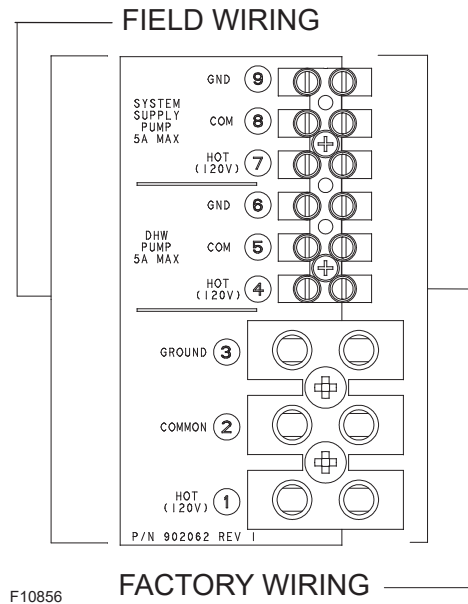
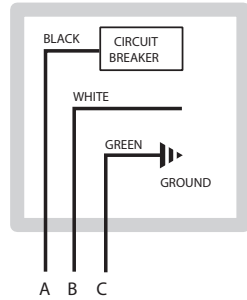
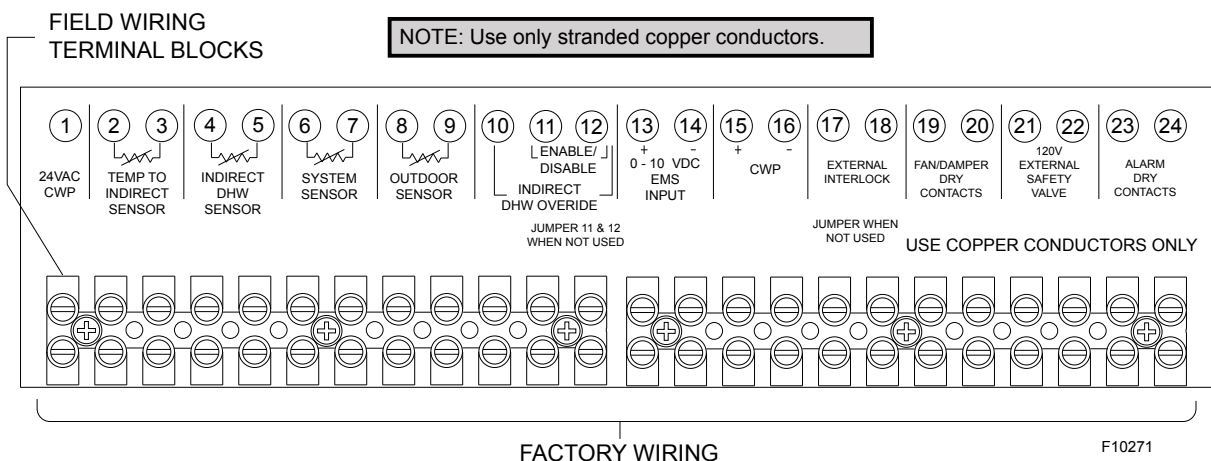

Figure 20. Wiring Electrical Connections
Figure 21. Wiring Connections
Figure 24. Low Voltage Field Wiring
All high voltage wiring connections to the MVB heater are made inside the rear wiring box as shown in **Figure 20**. Power for indirect DHW pump not exceeding 5 amps should be taken from terminals 4 (Hot), 5 (Com), and 6 (Gnd). Power for system pump not exceeding 5 amps should be taken from terminals 7 (Hot), 8 (Com), and 9 (Gnd). Power for boiler pumps must be routed through the pump contactor; 30A supply is required. Power for pumps must be a separate circuit wired through the pump contactor. Power to the MVB heater should be connected to terminals 1, 2, and 3 as noted in **Figure 20**. All low voltage wiring, including sensors, interlocks, enable/disable, and various options are wired into terminals 1–24 on the front wiring panel as noted in **Figure 24**.
⚠ WARNING: Using a multi-meter, check the following voltages at the circuit breaker panel prior to connecting any equipment. Make sure proper polarity is followed and house ground is proven (See Figure 21).
Refer to **Figure 20** and **Figure 21**.
Connect the Enable/Disable wiring to the field wiring terminal (shown in **Figure 24**). Alternately, any dry contact closure (including a remote thermostat) across these terminals will enable the MVB unit to run. Caution should be used to ensure neither of the terminals becomes connected to ground.
2. If using an Outdoor Sensor (option B-32), connect the sensor wires to the terminals marked OUTDOOR SENSOR (see **Figure 24**). Caution should be used to ensure neither of these terminals becomes connected to ground.
2. To enable this remote control function, set dip switch 5 to the UP position on the PIM. Dip switch 5 Toggles between an EMS (UP) signal or a demand signal from the VERSA (DOWN). Dip switch 2 on the PIM toggles between a Direct Drive (UP) input and a Target Temperature (DOWN) setpoint.
4. Connect an Energy Management system or other auxiliary control signal to the terminals marked 0-10V (+ /-) on the field wiring terminals (see **Figure 24**). Caution should be used to ensure that the +0-10V connection does not create a short to ground.
3. Connect the system supply sensor to terminals 6 and 7 on the field wiring strip located on the Master PIM (See **Figure 24**).
4. Connect the Outdoor sensor (if used) to terminals 8 and 9 on the field wiring strip located on the Master boiler (See **Figure 24**).
5. Connect the Enable/Disable wiring to terminals 11 and 12 on the field wiring strip located on the Master boiler (See **Figure 24**). This connection must be provided through dry contacts closure.
An alarm annunciator or light may be connected to the alarm contacts on the field wiring terminals. The Alarm Contacts are 3A rated dry contacts on a normally-open relay that close during fault or lockout conditions, and the maximum voltage across the contacts is 30 VAC or 30 VDC. See the Field Wiring as shown in **Figure 24**.